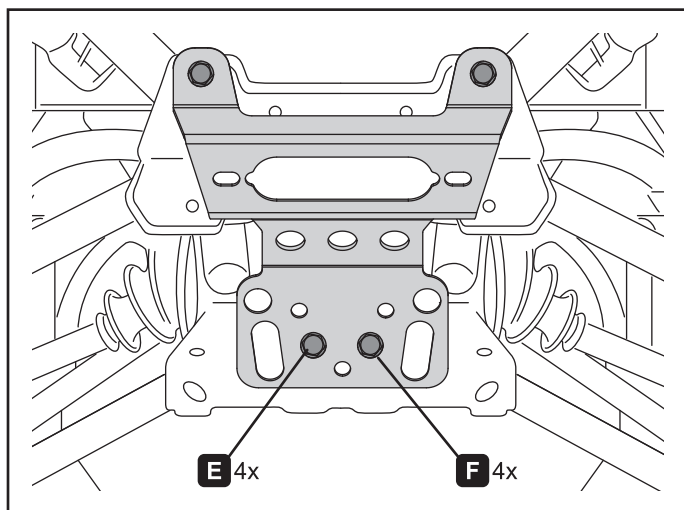

Figure 12. Fairlead bracket install
8. Install fairlead plate (B) to your machine using bolts (E) washers (F) and nuts (D) as shown in figure 12.